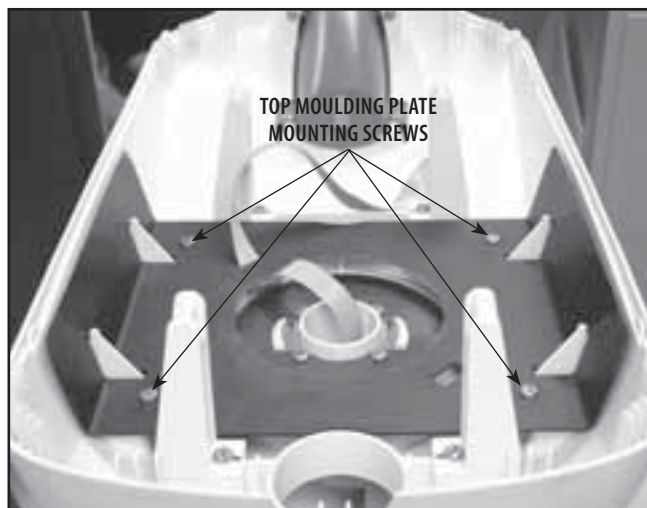

FIGURE 6.15
3. Using the Flat Blade Screwdriver, remove the four Top Moulding Plate Mounting Screws. When removing the Top Moulding Plate, guide the Touch Screen Ribbon Cable through the opening. See Figure 6.15.
5. Position the Top Moulding Plate. Thread the Touch Screen Ribbon Cable through the opening in the Top Moulding Plate as shown in Figure 6.20. Secure the four Top Moulding Plate screws with the #2 Phillips Screwdriver. Refer to Figure 6.15.